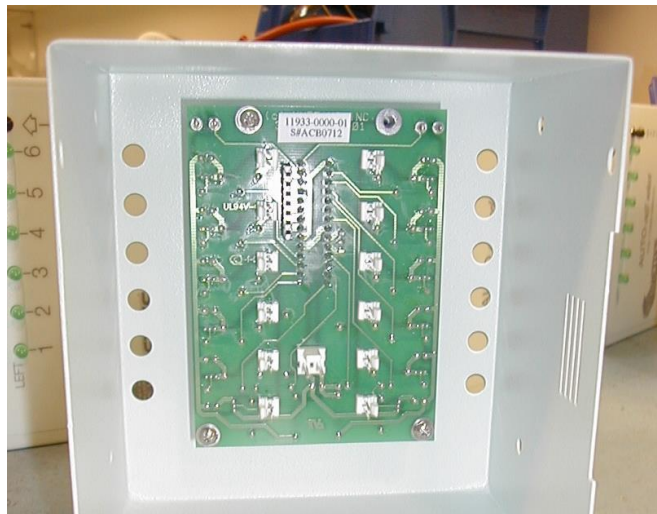

Figure 8
- 4.1. Secure ACS PC Board Ass'y (11933-0000-01) to the ACS front housing (40001-3042-01) with (3) 4-40 Pan Head 1/2" Screws (20004-0008-01), & (3) #4 Lock washers (20002-0440-01) in holes shown in Figure 8.